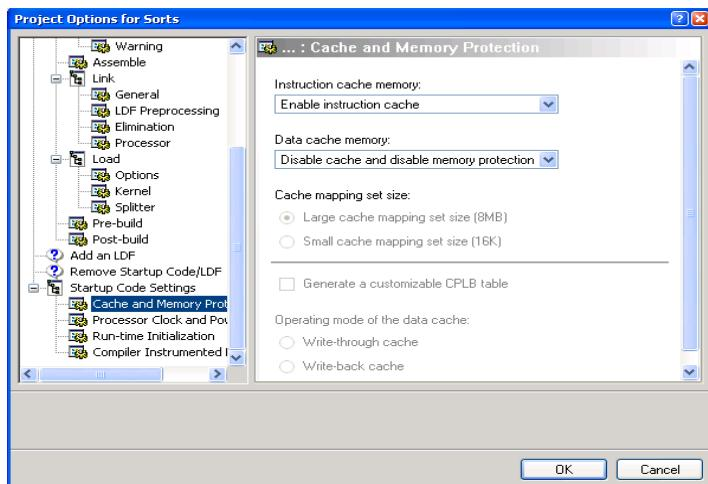

Figure 1-8. Cache and Memory Protection Page
2. In the Project tree control, locate the **Startup Code Settings** node. Click **Cache and Memory Protection** under **Startup Code Settings** (Figure 1-8).